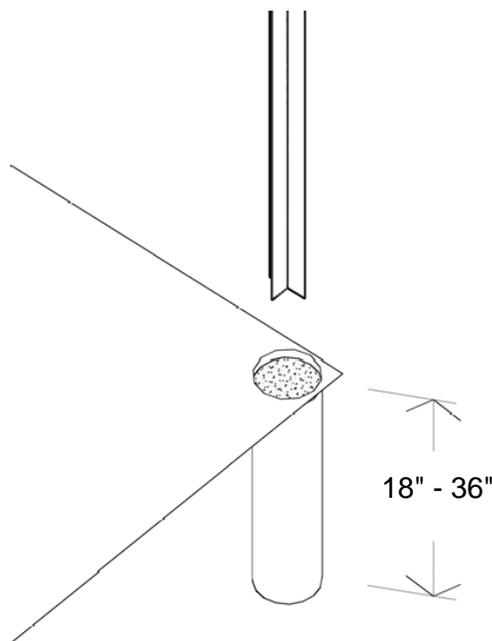

Figure 2
4. Drilling Postholes for wall hts. up to 72": With a posthole auger, drill/dig all holes to an average depth of 24" (figure 2).